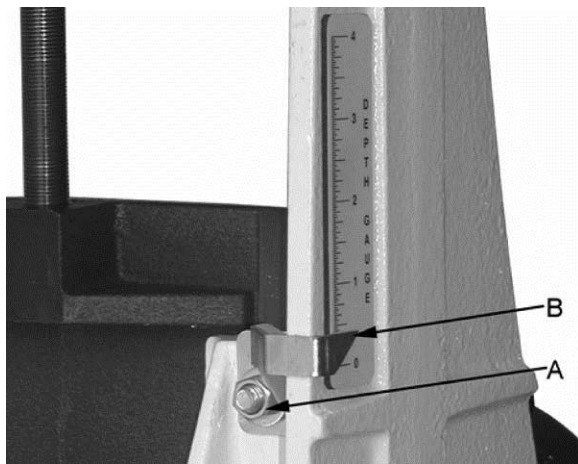

Figure 19
1. Loosen screw (A, Figure 19) sufficiently to allow the pointer (B) to be turned to depth gauge scale.
3. At this drum position, the depth gauge pointer (B) should align with the zero mark of the scale. If it does not, loosen screw (A) and raise or lower pointer to align with zero on the scale.
4. Re-tighten screw (A).